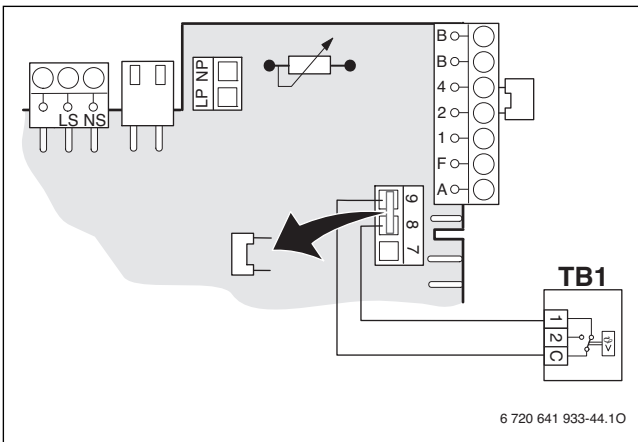

Fig. 42 Electrical wiring TB1
- ▶ Connect the leads labeled SWITCH CONTACT (yellow) to the TB1 temperature guard (→ Fig 42, page 43) on the Heatronic.